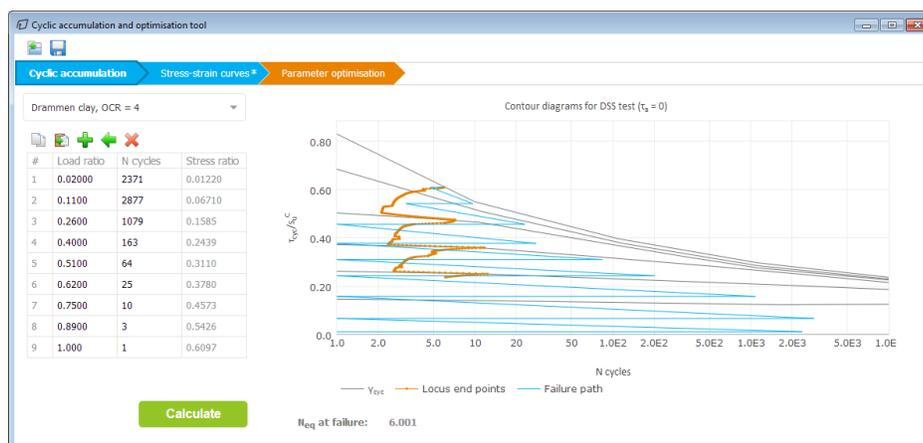

Figure 103: Cyclic accumulation in PLAXIS 2D
3. Click **Calculate** to calculate the equivalent number of cycles  $N_{eq}$ . The selected contour diagram is plotted together with the shear stress history for a scaling factor where the soil fails (here defined at 15% shear strain) at the last cycle (Figure 103 (on page 119)) and the loci of end-points of the stress history for different scaling factors. The calculated equivalent number of cycles corresponds to the value on the x-axis at the last point of the locus of end-points and is equal to 6.001.